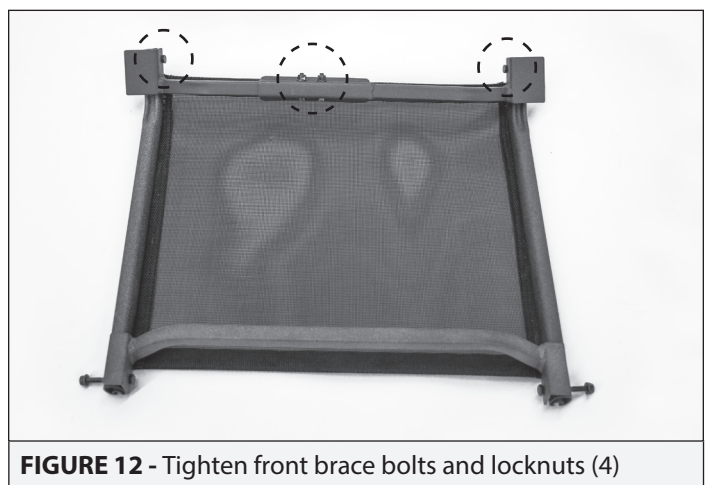

FIGURE 12 - Tighten front brace bolts and locknuts (4)
i. Tighten all (4) bolts and locknuts on the front hinged brace at this time. **SEE FIGURE 12.** This will tighten up the side rails of the seat to the braces and square up the entire seat.